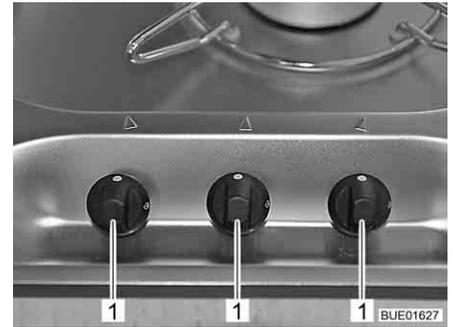

Fig. 216 Operating controls for gas cooker
- Turn the control knob (Fig. 216,1) on the burner you wish to use to the ignition position (large flame).